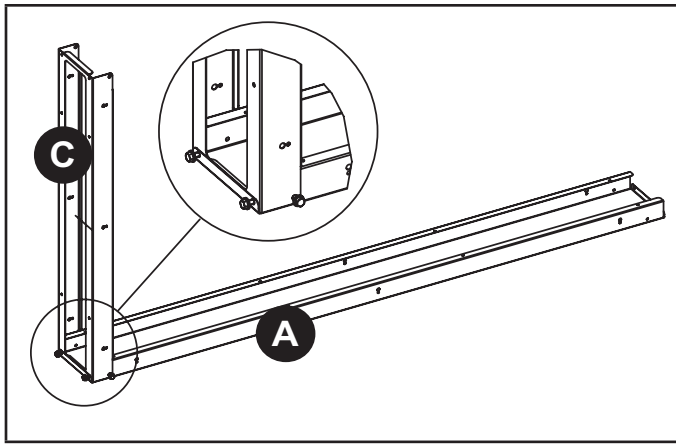

FIGURE 11. Assemble Front Panel (C) to Bottom Panel (A)
The cabinet sections are designed to be attached together. Align the edges as shown in figure 11.
- 1 - Place one Top / Bottom Panel A on a firm surface. Align front panel C into one end of side panel A. Attach Panel C to Panel A as shown in figure 11 using provided screws.